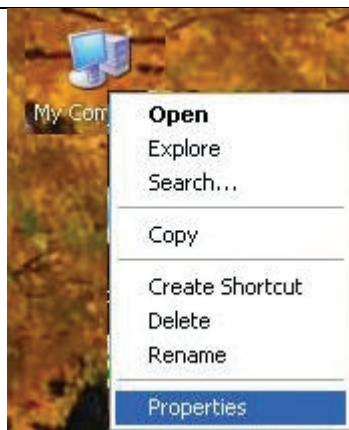

Figure 3-12
3.3.2 Return to the desktop of compute, right click “My Computer”->“Properties”, refer to fig.3-12.